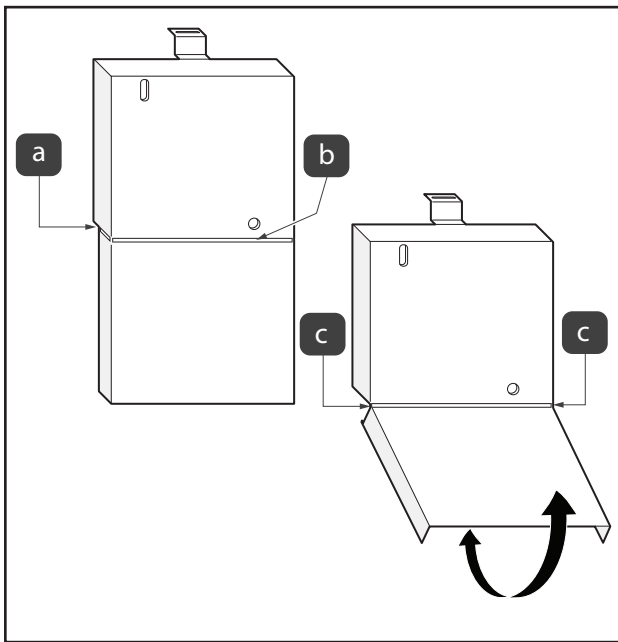

Figure 14. Reinstall Dead Front
16. If bottom half of dead panel needs to be removed use some diagonal pliers to cut the two rear tabs, see Figure 14 (a).
17. Cut dead panel label across dead panel opening, see Figure 14 (b).
18. Swing dead panel bottom back and forth until front tabs break off, see Figure 14 (c).